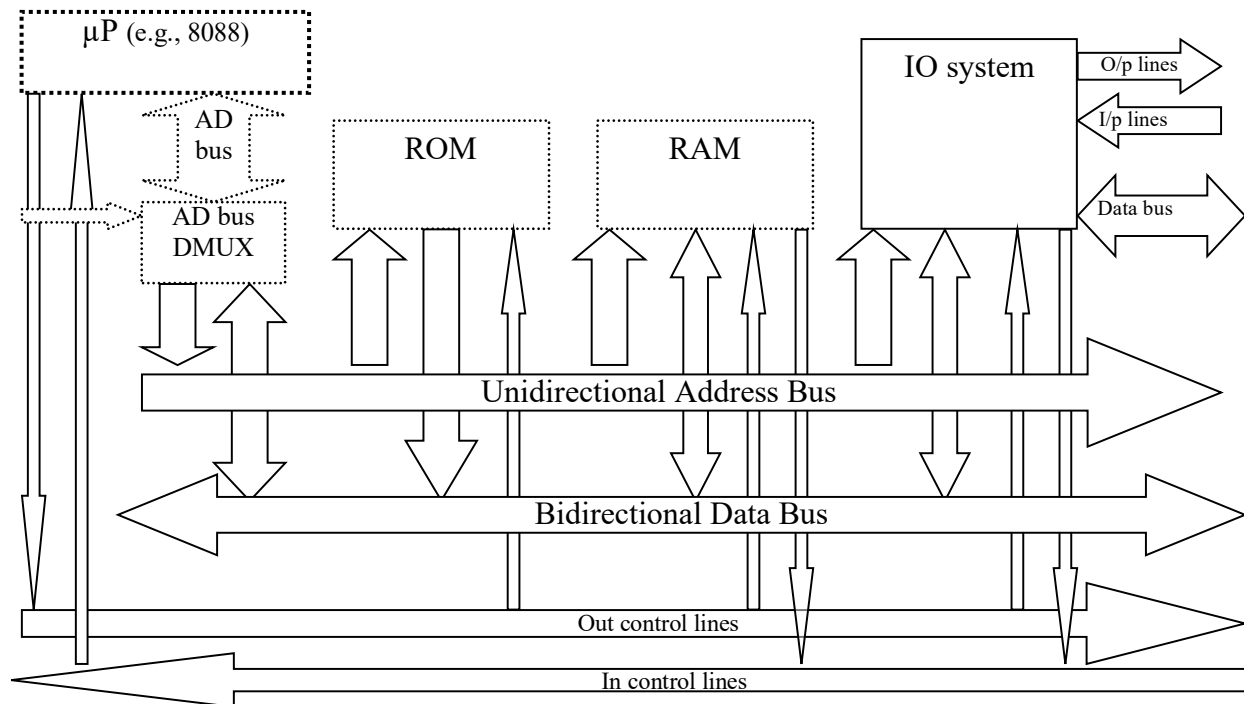

Fig. 4: System architecture for a microprocessor-based system
5. The following reference system architecture for a microprocessor-based system will give you the needed big picture (Fig.4) to give a head start. You must design all the components except the CPU, AD bus DMUX, ROM and RAM, which are showed in dotted lines. The block arrows indicate the direction of data flow.